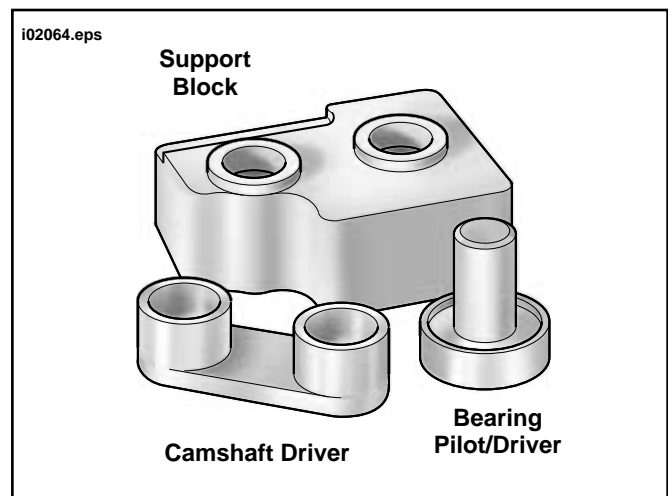

Figure 4. Camshaft/Camshaft Bearing Remover/Installer (P/N HD-43644)
- a. See Figure 4. Obtain the CAMSHAFT/CAMSHAFT BEARING REMOVER/INSTALLER (HD-43644)